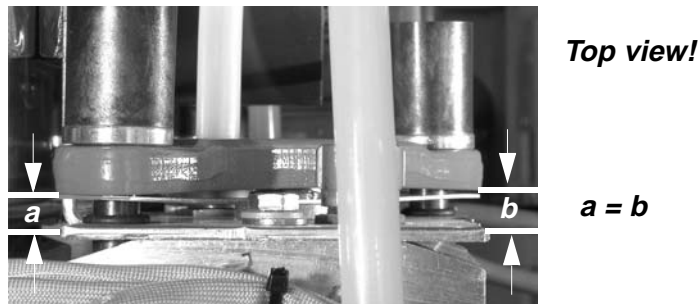

Figure 9-4 Checking the Distances
- 3 Using a sliding caliper, verify that the distance between the clamp and the outer cooling element is equal on both sides (see Figure 9-4).
- 3 Using a sliding caliper, verify that the distance between the deflection bar and the outer cooling element is equal on both sides (see *Figure 9-4*).